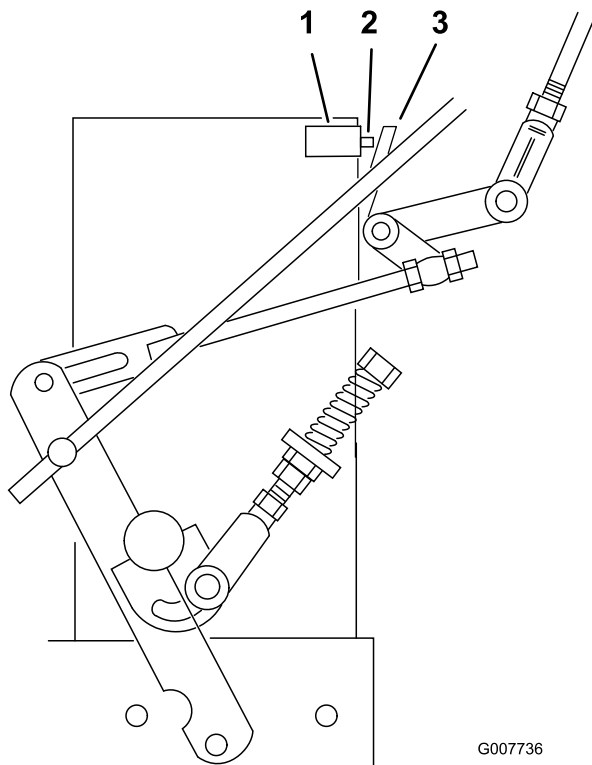

Figure 30
7. Check to make sure the safety switch is depressed and there is a 8 mm (5/16 inch) space between the actuating tab and the switch. (Figure 30).
8. If needed, adjust switch location to create the 8 mm (5/16 inch) space (Figure 30).